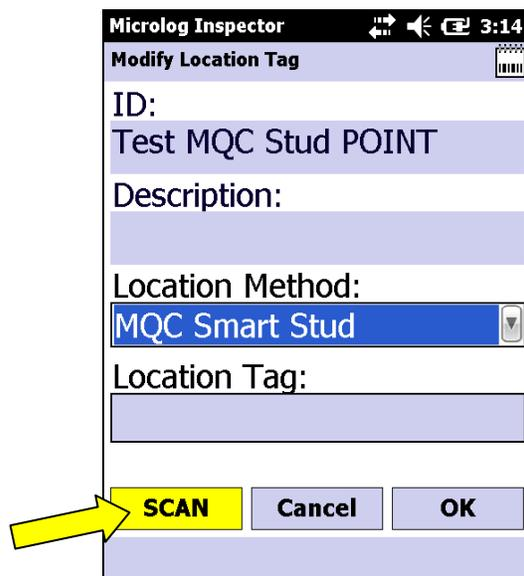

Figure 4. SCAN button
7. Press the yellow **SCAN** button [Figure 4] to scan the connected Smart MQC's unique Location Tag identifier. After a successful reading, the Location Tag field will display the tag ID for the selected POINT, for future data collection.